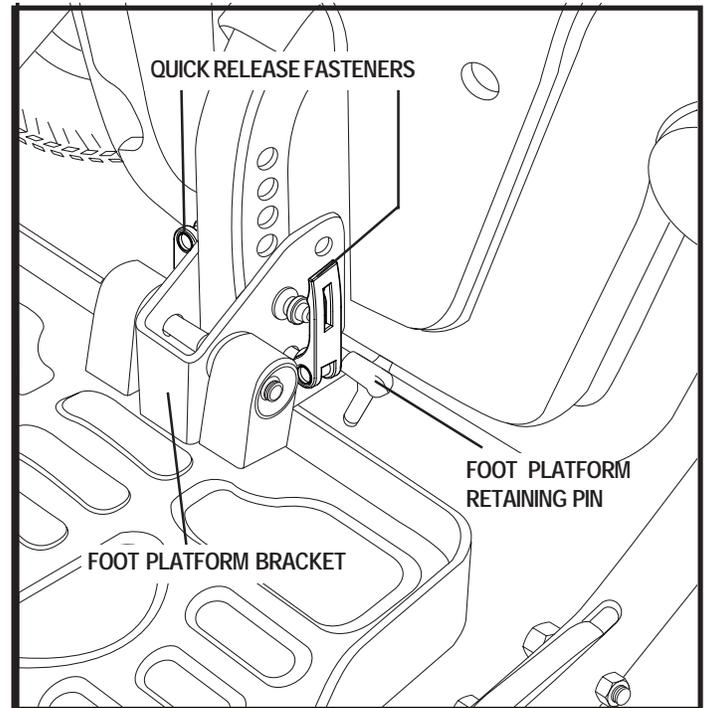
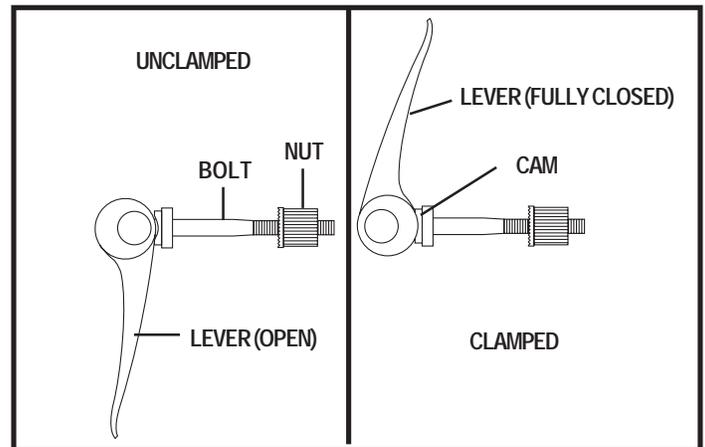

Figure 18. Foot Platform Adjustment
Figure 19. Quick Release Fastener Operation
1. Remove the quick release fasteners from the foot platform bracket. See figure 18.
Quick Release Fasteners: The foot platform is attached to the power base with two quick release fasteners. See figure 18. Each quick release fastener consists of a bolt, a lever and a nut. See figure 19. The lever has a cam on the end that allows it to clamp into place. The quick release fastener has two states: clamped and unclamped. When the lever is open, the quick release fastener is unclamped. When the lever is closed, the quick release fastener is clamped.